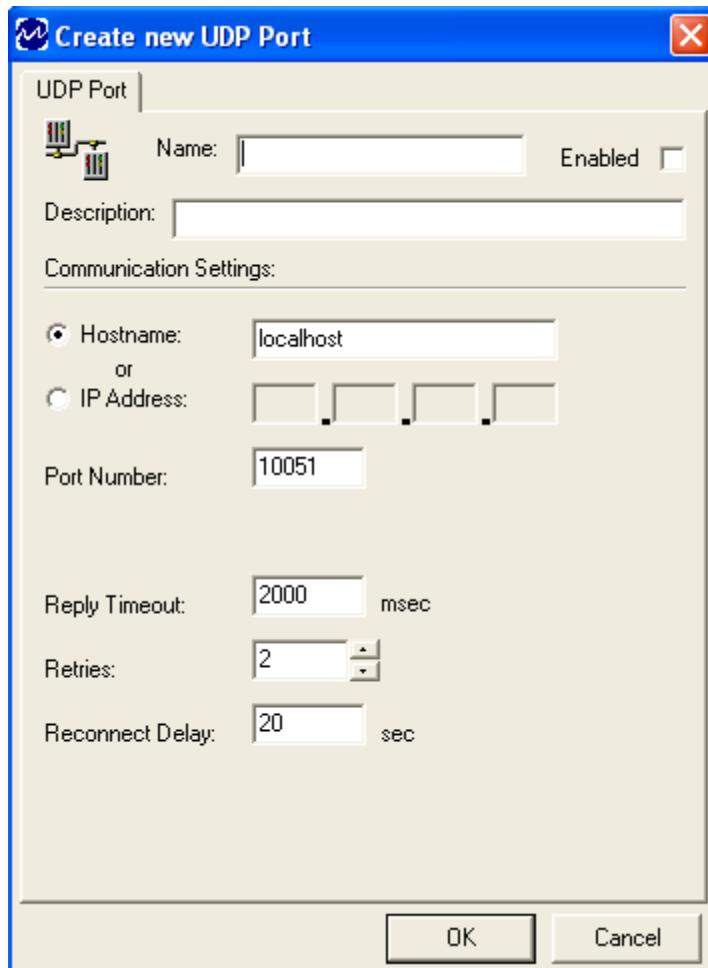

Figure 14 - Create New UDP Port Window
The **Create New** window (Figure 14) displays the settings available for a connection to a UDP Port.
5. The **Create New** window appears (Figure 14).